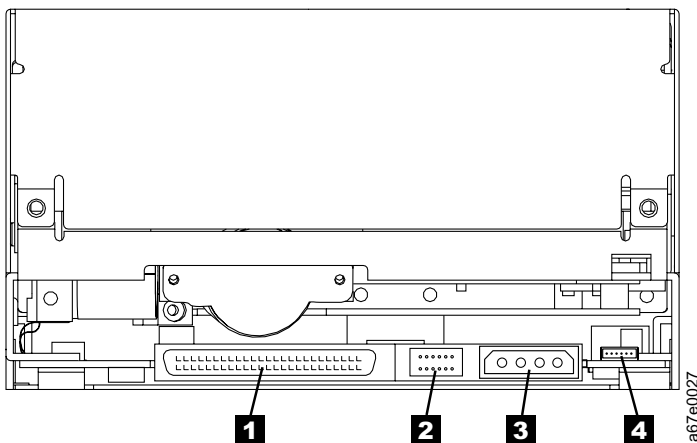

Figure 21. Rear View of the Ultrium Internal Tape Drive Model T200 (SCSI Drive)
4. Disconnect the internal power cable from the power connector (see **3** in Figure 21).